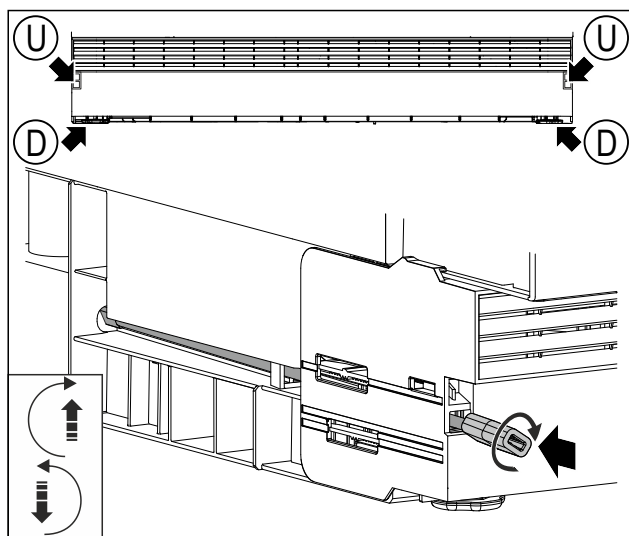

Fig. 48 Example illustration
- Insert the rod with the adapter piece into the opening Fig. 48 (U).